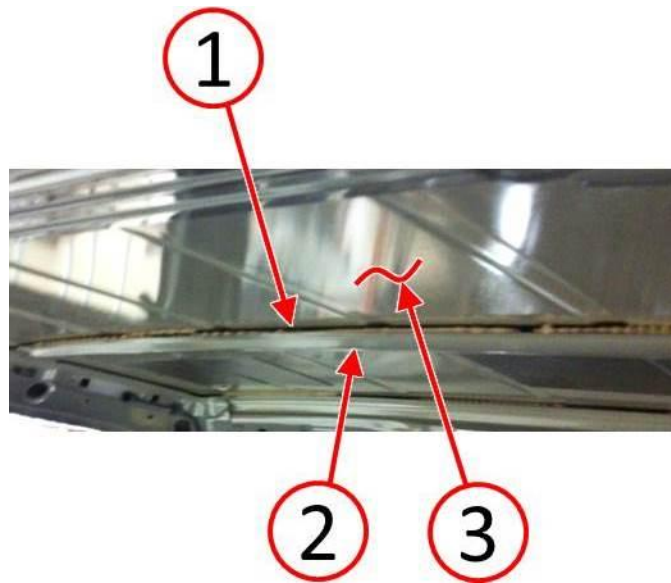

Fig. 2 Roof Bow Bonding Inspection
6. Inspect for missing or separated anti-flutter adhesive foam (1) between the roof bow (2) and the roof sheet metal (3) (Fig. 2).